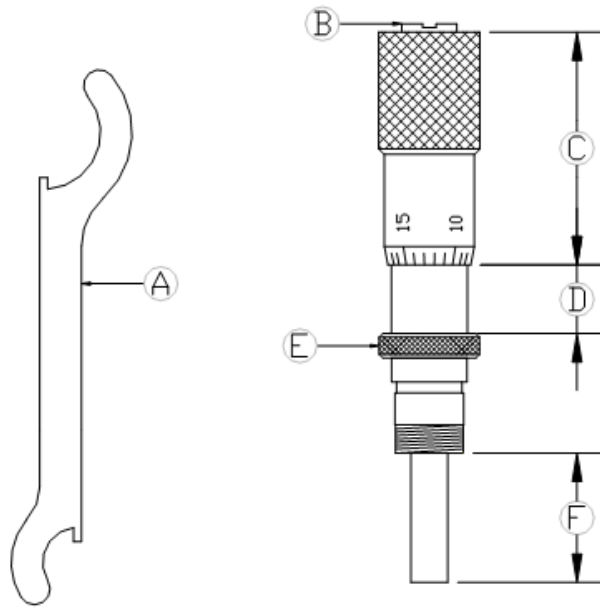

Figure 8: Micrometer Adjustment Breakdown
8. Once the micrometer setting is determined, the collar (Figure 8, Part E) on the micrometer head (**1**) can be turned clockwise to lock the adjustment.
19. Using pliers grip the collar (Figure 8, Part E) or body (Figure 8, Part D) of the micrometer head (**1**) and turn counterclockwise to loosen then unthread and remove from the upper air body (**4**) by hand.
1. Mount one 007 Buna O-ring **(23)** on the end (Figure 8, Part F) of the micrometer **(1)** and slide it up to the threads.
3. Holding the collar (Figure 8, Part E) of the micrometer head **(1)**, turn the dial (Figure 8, Part C) counterclockwise until the number 5 can be seen on the gauge (Figure 8, Part D).
4. Using pliers, grab the gauge section of the micrometer (Figure 8, Part D) and turn clockwise to snug it onto the upper air body **(4)**.
1. Ensure the micrometer adjustment head (**1**) is backed out far enough so at least the number 1 can be seen on the gauge (Figure 8, Part D).